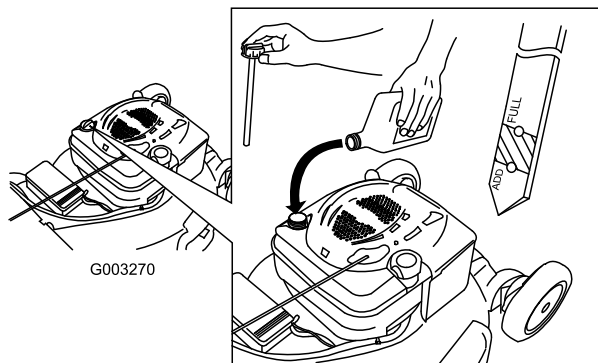

Figure 6
1. Remove the dipstick (Figure 6).
2. **Slowly** pour oil into the oil fill tube until the oil level reaches the Full line on the dipstick (Figure 6). **Do not overfill.** (Max. fill: 20 oz. (0.59 l), type: SAE 30W detergent oil with an API service classification of SF, SG, SH, SJ, SL, or higher.)